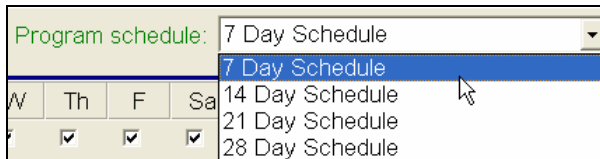

Figure 16.1.7D
- In the **Program Schedule** box using the drop down arrow to the right choose which type of schedule that you want (Figure 16.1.7D).